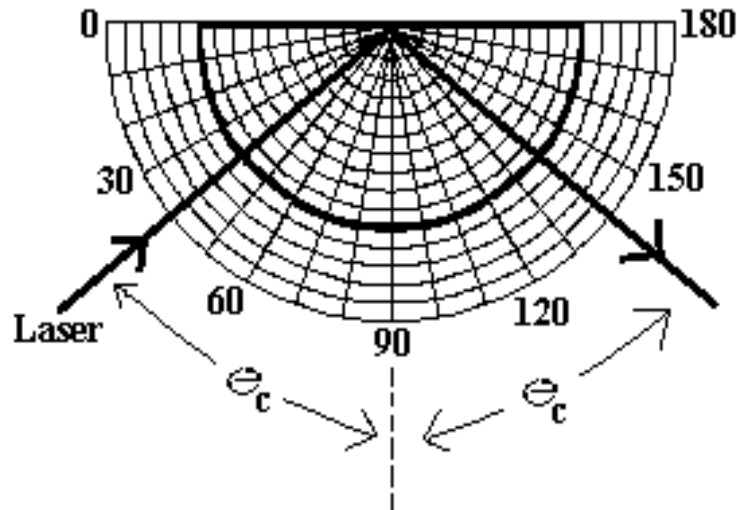

Figure 2: Total Internal Reflection
- Return the Lucite sample on the compass board as shown in Figure 2. Find the minimum angle for total internal reflection to occur. Use this to determine the index of refraction of Lucite. In this arrangement the laser light is incident from the medium into air; therefore, n_1 = index of refraction of the medium and n_2 = index of refraction of air = 1.